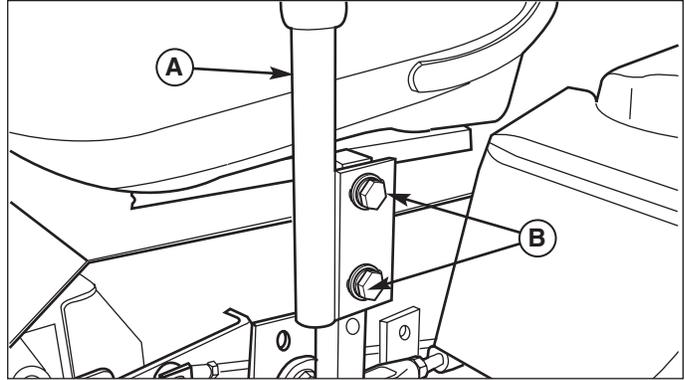

Figure 4. Control Handle Installation
NOTE: There is a LEFT-HAND and a RIGHT-HAND control handle. When assembled to the base, the handle base should be pointing towards the rear as shown in Figure 4.
2. Install the ground speed control handles (A, Figure 4) onto the control lever base using the 5/16-18 x 3/4" bolts, 5/16" lock washers and 5/16" flat washers (B, C, & D). Prior to tightening the bolts, align the handles with each other.